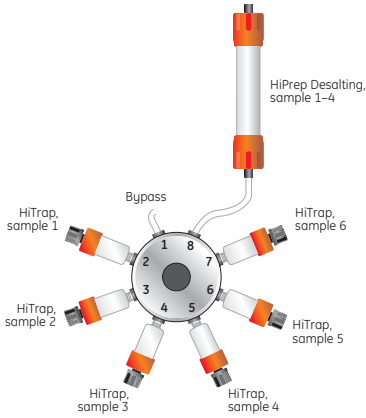

Fig 2. Column connections at column valves V2 and V3.
- Connect selected columns as shown in Figure 2 and prepare them according to the “Buffer suggestions and column preparations” cue card.